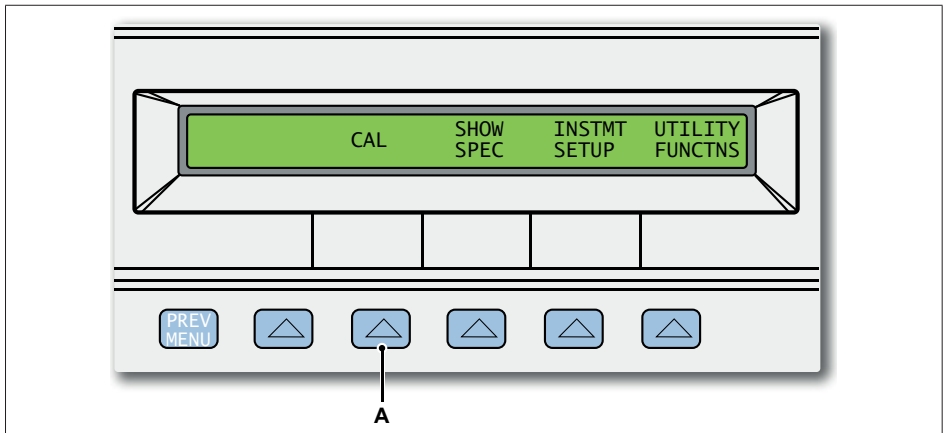

Fig. E.14 Fluke 5522A Setup display
3. The Fluke 5522A setup menu opens (see Fig. E.14). Select the **CAL** button.